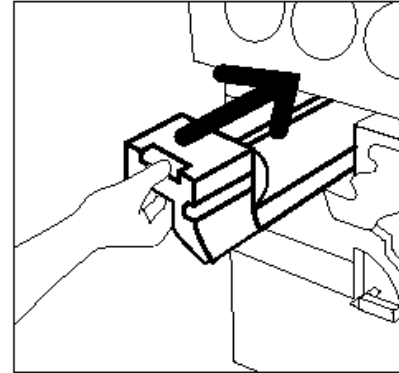

Figure 44: Inserting the new Copy/Print Cartridge
- 7** Align the new Copy/Print Cartridge with the arrow on the copier/printer, then slide the new Copy/Print Cartridge into the copier/printer, as illustrated in Figure 44.